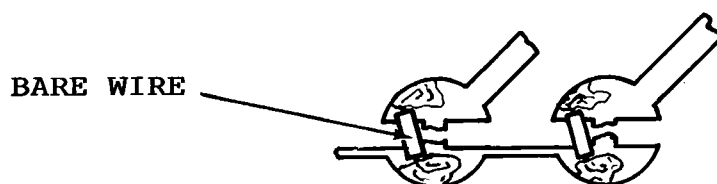

Figure 3-7. Reconfiguration of Device #
- If a path has previously been cut and is now desired to be "not cut", solder a short bare wire between the pads. (Refer to Figure 3-7)